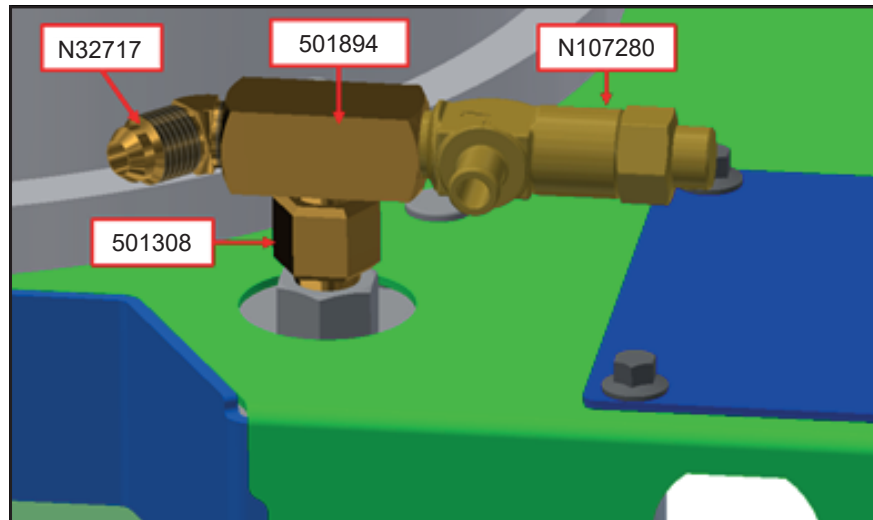

Figure 4 - Installation of Relief Valve
1.8. Install the following parts on the radiator inlet vent line: Assembly order: 1-2, 3, 4 (see figure 4).